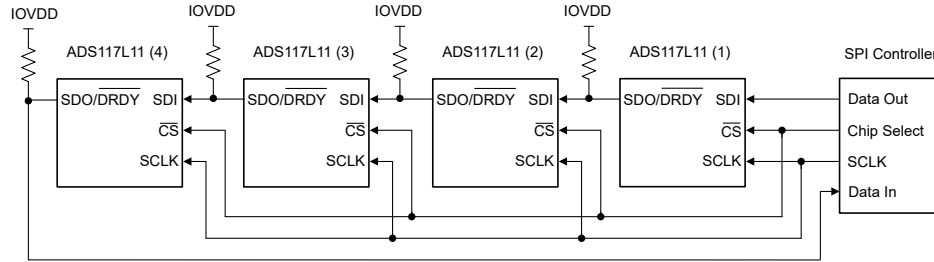

图 8-36. Daisy-Chain Connection
图 8-36 illustrates four devices connected in a daisy-chain configuration. The SDI of ADS117L11 (1) connects to the host SPI data out, and SDO/ $\overline{\text{DRDY}}$ of ADS117L11 (4) connects to the host SPI data input. The shift operation is simultaneous for all devices in the chain. After each ADC shifts out the conversion data, the data of SDI appears on SDO/ $\overline{\text{DRDY}}$ to drive the SDI of the next device in the chain. The shift operation continues until the last device in the chain is reached. The SPI frame ends when $\overline{\text{CS}}$ is taken high, at which time the data shifted into each device is interpreted. The SDO/ $\overline{\text{DRDY}}$ pin must be programmed to data output-only mode.
图 8-38 shows the detailed input data sequence for the daisy-chain write register operation of 图 8-36. 32-bit frames for each ADC are shown (16 bits of data, with the STATUS and CRC bytes enabled). Command operations can be different for each ADC. The read register operation requires a second frame operation to read out the register data.
图 8-39 illustrates the clock sequence to read conversion data from the device connection in 图 8-36. This example illustrates a 24-bit output frame (16-bits of data, with the CRC byte enabled). The output data of ADC (4) is first in the sequence, followed by the data of ADC (3), and so on. The total number of clocks required to shift out the data is given by the number of bits per frame × the number of devices in the chain. In this example, 24-bit output frames × four devices result in 96 total clocks.